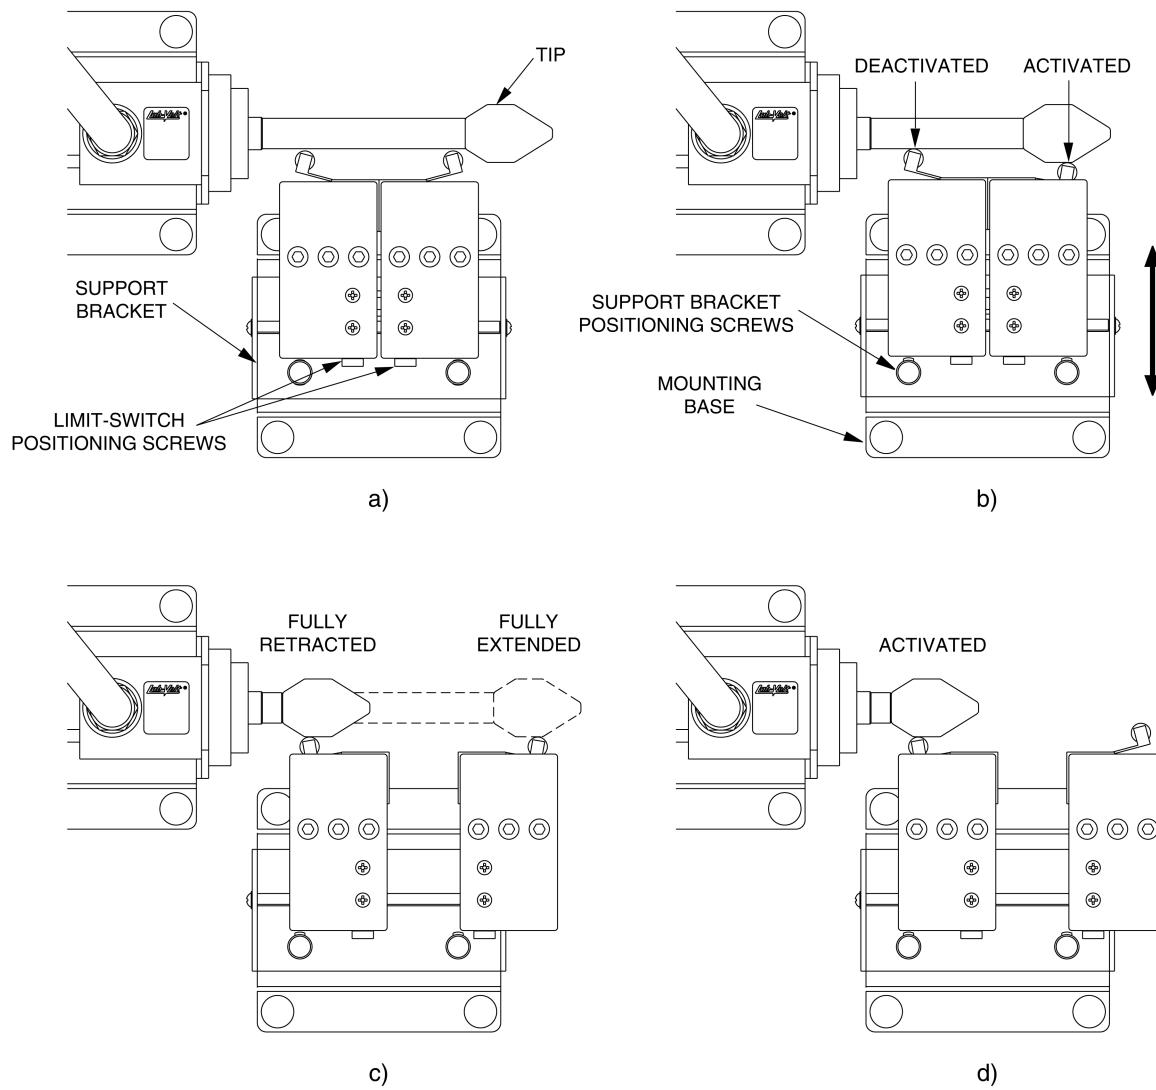

Figure 3-6. Mounting of the mechanical limit switches.
- Loosen the positioning screw on each limit switch. Position the switches side by side at the center of the support bracket, as Figure 3-6 a) shows. Tighten the limit-switch positioning screws.
- Loosen the support-bracket positioning screws until you are able to slide the bracket over the mounting base, as Figure 3-6 b) shows. Adjust the position of the bracket so that the switches are activated when the cylinder tip pushes against the switch arm and deactivated when the cylinder tip releases the switch arm. To test this out, manually extend and retract the cylinder rod, and listen for the “click”. Then, tighten the support-bracket positioning screws down on the mounting base.
- Loosen the positioning screw on each limit switch. Adjust the positioning of the switches so that they are activated when the cylinder rod is fully extended and fully retracted, as Figure 3-6 c) shows. To test this out, manually extend and retract the cylinder rod, and listen for the click. Then, tighten the limit-switch positioning screws.
- Retract the cylinder rod completely, as Figure 3-6 d) shows.